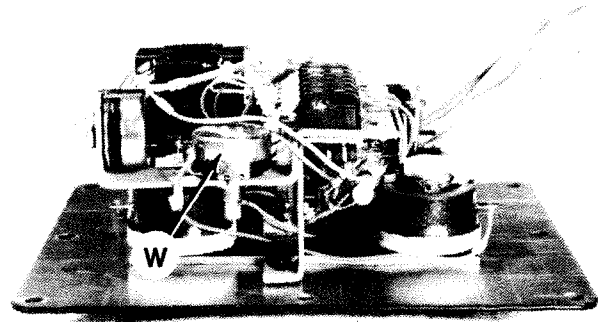

Figure 3.25 - Rheostat Adjustment
Voltage is present on the leads to the rheostats and switches. Use caution when adjusting rheostat "W", Figure 3.25 .
48. Adjust rheostat "W", Figure 3.25, as needed to adjust pulley position: